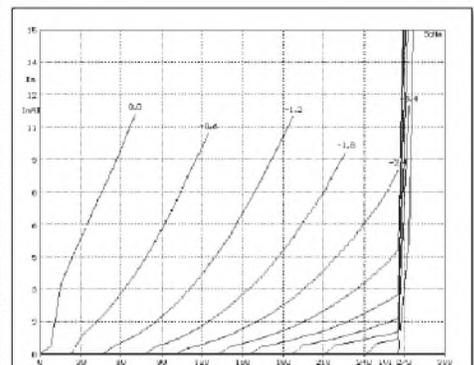

FIGURE 2: Sofia curves for 6ER5, using 6SL7 model with shunt zeners.
nected the three 1N4981 zeners from pin 5 (Pt) to pin 7 (K) of the 7-pin socket with external clip leads. The plate curves clipped at a safe voltage for the 6ER5 (Fig. 2), and my 12AX7 tests suggest that this doesn't limit the ability to read all the tube parameters at selected operating points below clipping.